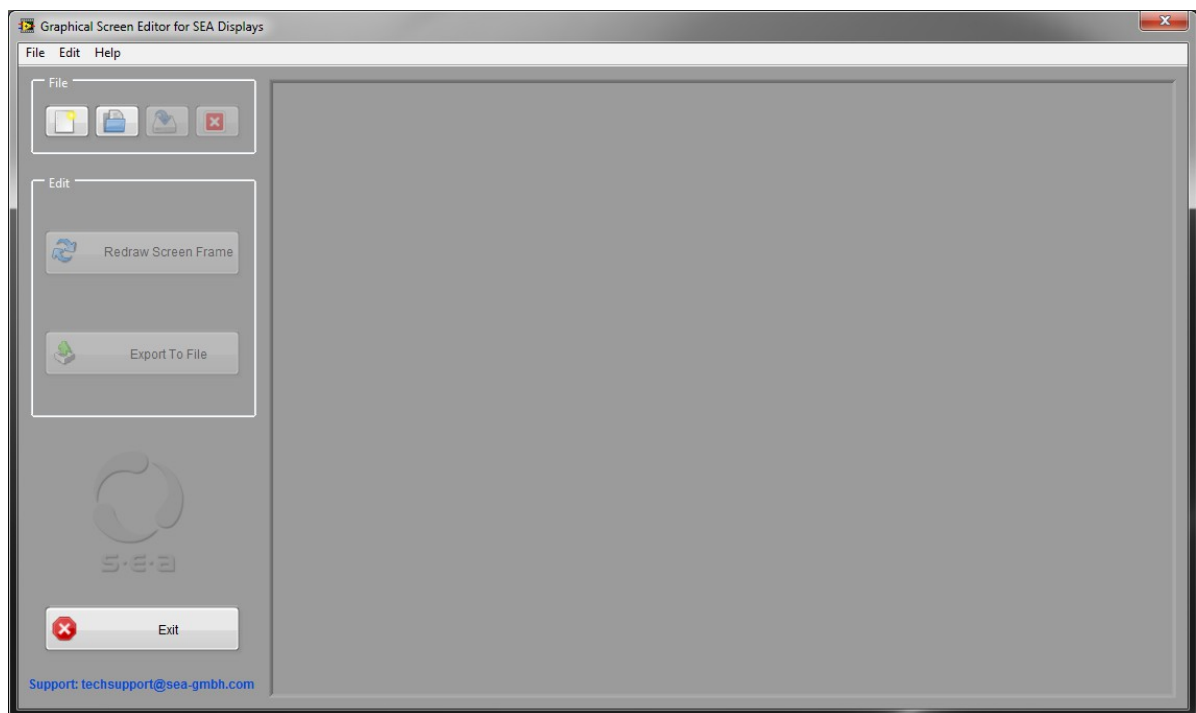

Fig. 1: Empty Editor
2. Start the editor: `Tools -> SEA -> Graphical Screen Editor -> Editor....` The *Editor* window appears on the monitor screen, refer to Fig. 1. Observe that some functions (buttons or menu items) are disabled and others not. As the initially disabled functions are applicable on a loaded Configuration-VI they become enabled, so soon as a Configuration-VI is created or opened inside the editor.
The Graphical Screen Editor consists of three functional areas: the menu bar, the control area (buttons on the left side) and the *Configuration-VI* display area, refer to Fig. 1.